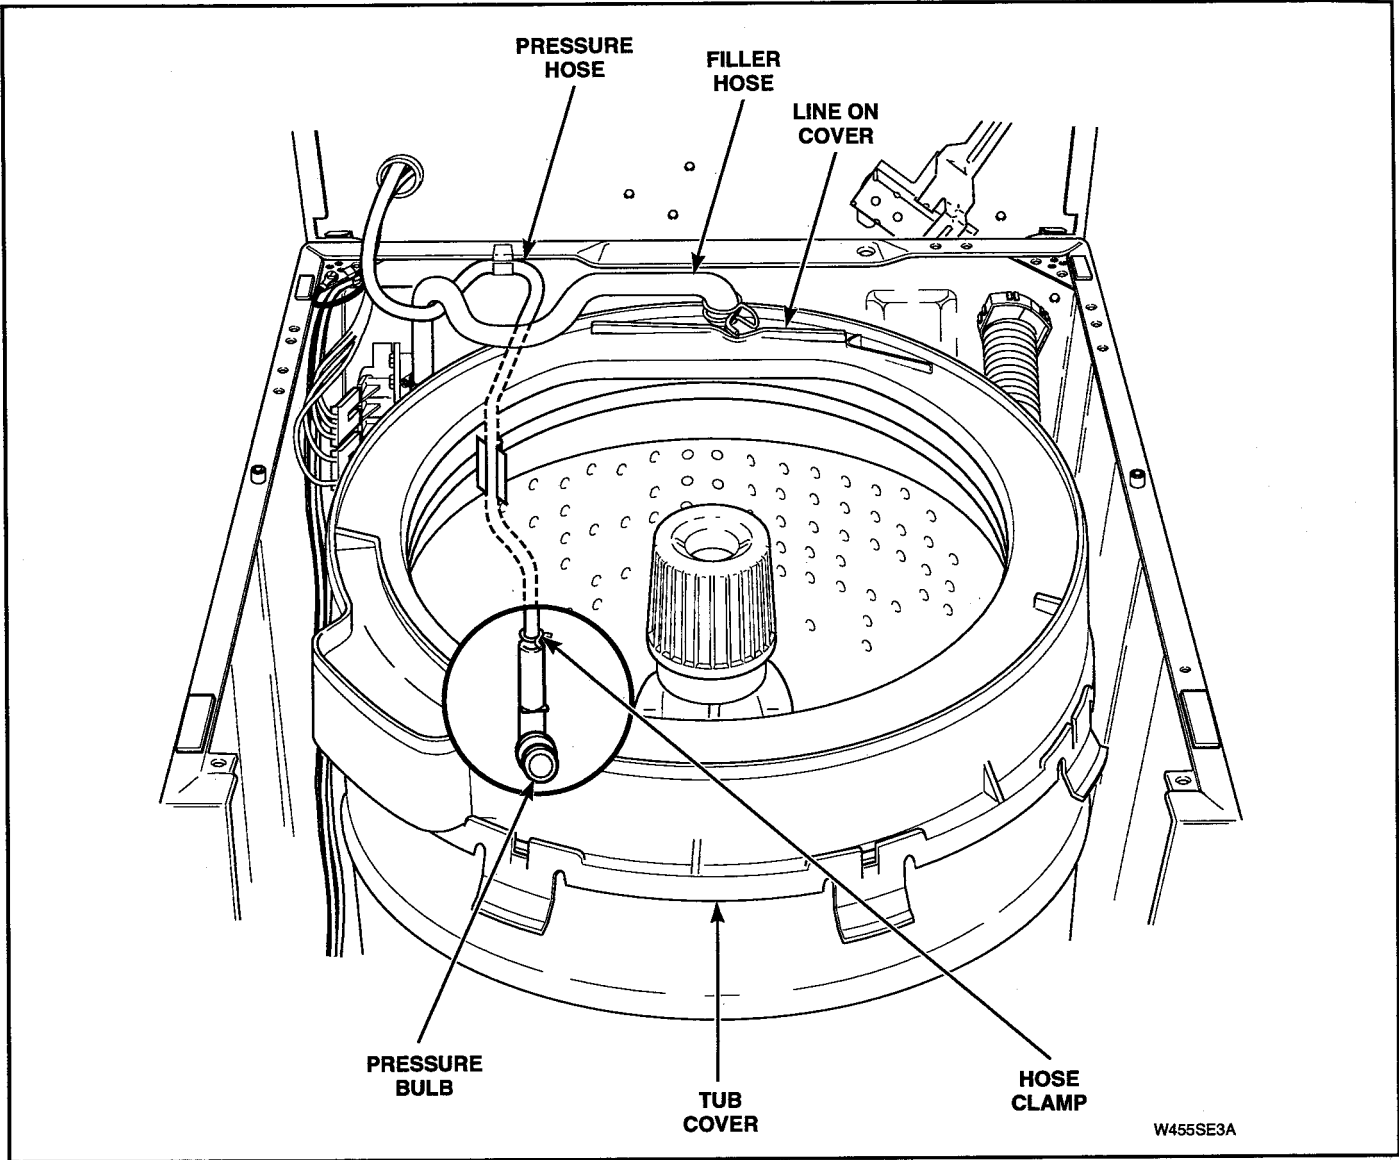

Figure 5-41
- q. Reconnect pressure hose to pressure bulb. See Figure 5-41. Then connect filler hose to tub cover. See Figure 5-41.
**NOTE:** When reinstalling filler hose, white line on hose that connects to tub cover must be aligned with line on top side of outer tub cover. See Figure 5-41. Make sure hose is in its natural position (not kinked or twisted). If hose is not, loosen hose clamp and straighten hose.